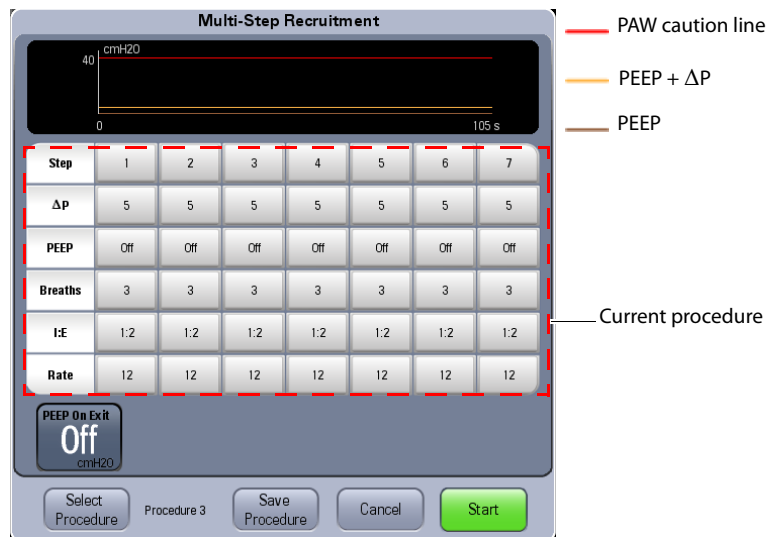

FIGURE 5-22 Multi-Step Recruitment
1. On the **Main Screen**, select **Recruitment > Multi-Step Recruitment** to open the menu (see FIGURE 5-22).